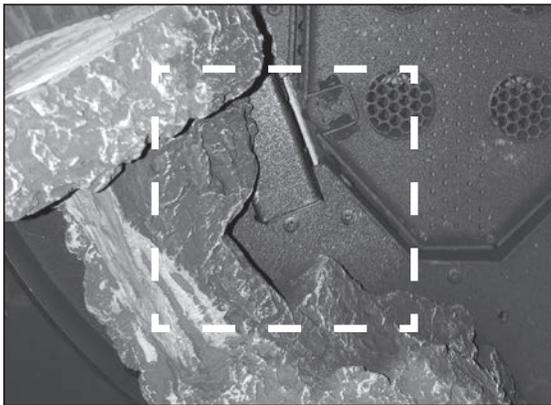

Figure 93: Log 7 Placement (Top View)
***Note:** It is important that Log 7 is placed correctly as specified in the instructions. There is a notch located on its back side (facing the burner) that should be placed to the right of the pilot as shown in Figure 93. Failure to place the log properly could result in problems with the pilot.